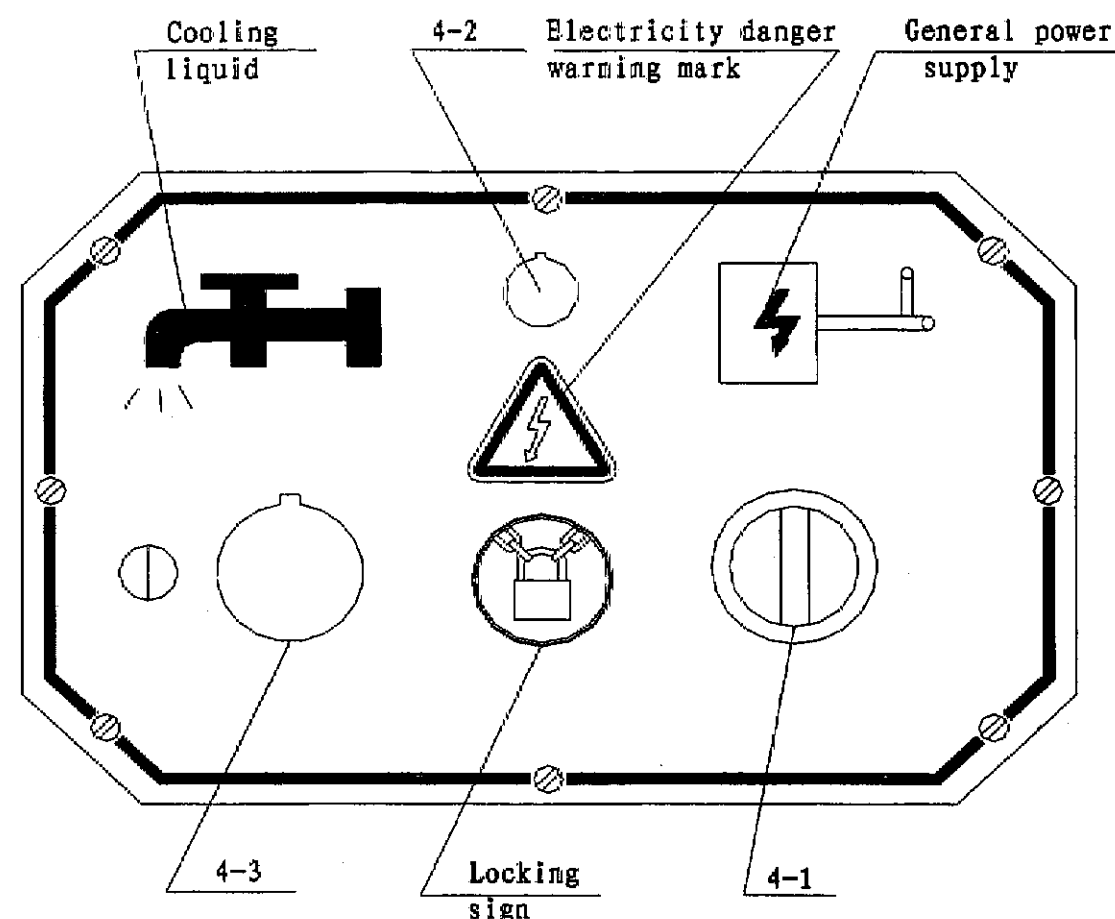

Fig. 4.4 Column Square Door Diagram
4.1.1 Turn on the general power supply switch 4-1 at column square door, press down cooling pump start press-button 4-3 (See Fig. 4.4), turn on the lighting lamp switch 1-16 (See Fig. 3.1).
When use cooling liquid, press down the switch 4—3 (see Fig. 4.4), start the cooling